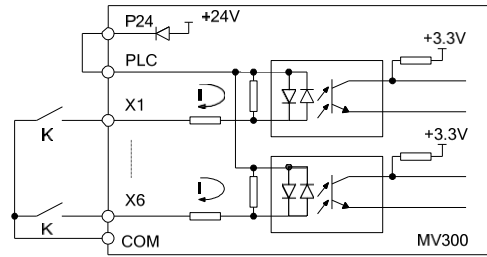

Fig. 3-11 The wiring mode when using the internal +24V power supply of the drive
1) When using the internal +24V power supply of the drive, the wiring mode is as shown in Fig.3-11.